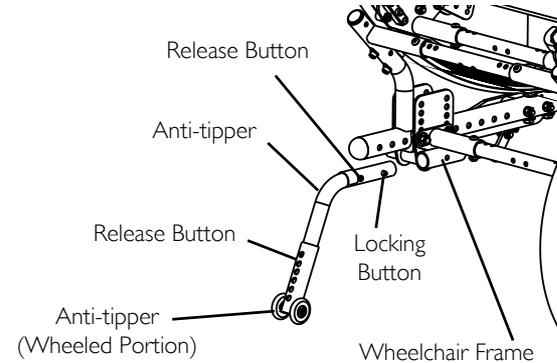

FIGURE 15 Installing the Anti-Tippers
2. Press the release buttons in and install the anti-tippers with the wheels facing down until the locking buttons lock in place (FIGURE 15).